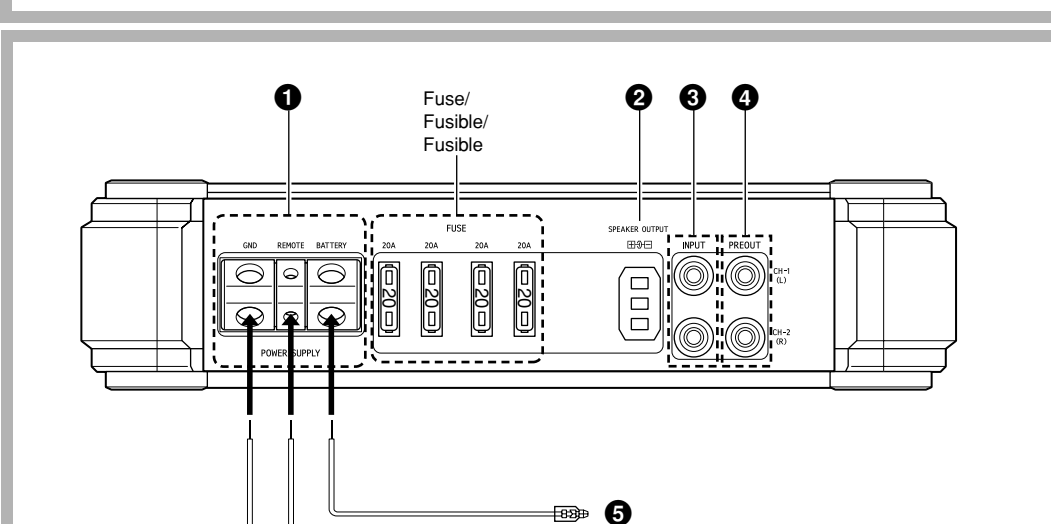
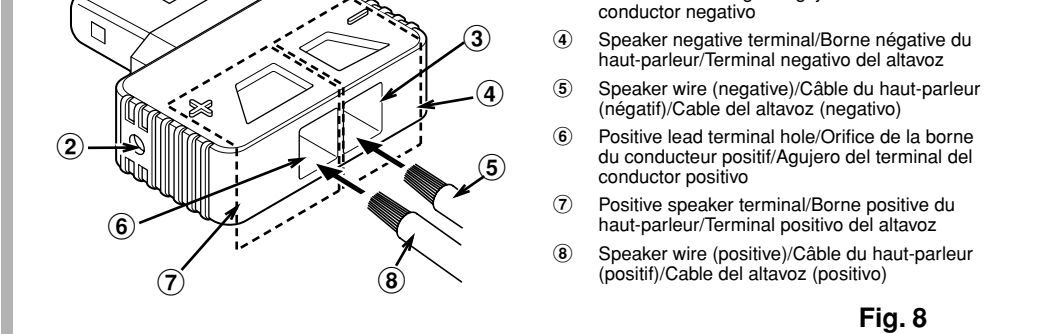

Fig. 5
Fig. 8
## CONNECTIONS (Fig. 5 - Fig. 8)
- Insert the exposed conductor of the speaker wire into the wire terminal hole. Refer to Fig. 8.
## CONEXIONES (Fig. 5 - Fig. 8)